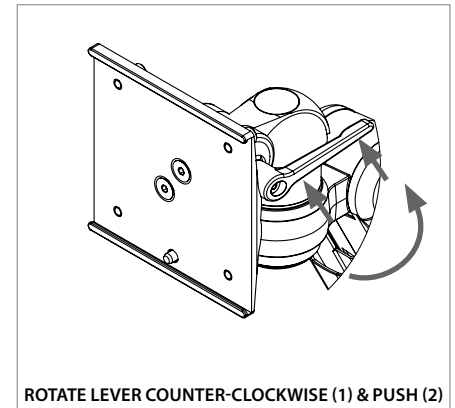

Figure 3
2. A sufficient level of tightness may not be achieved by the time the **TILT ADJUSTMENT LEVER** touches the back of the **PATIENT MONITOR SHELF** (Figure 1). If this occurs, pull the **LEVER** away from the **MON HEAD** to disengage the **LEVER** (Figure 2). Turn the **LEVER** counter-clockwise (Figure 3) to create space for the **LEVER** to further tighten. Push the **LEVER** towards the **MON HEAD** (Figure 3) to re-engage the **LEVER**. Repeat Step 1 to further tighten the **TILT HINGE**.